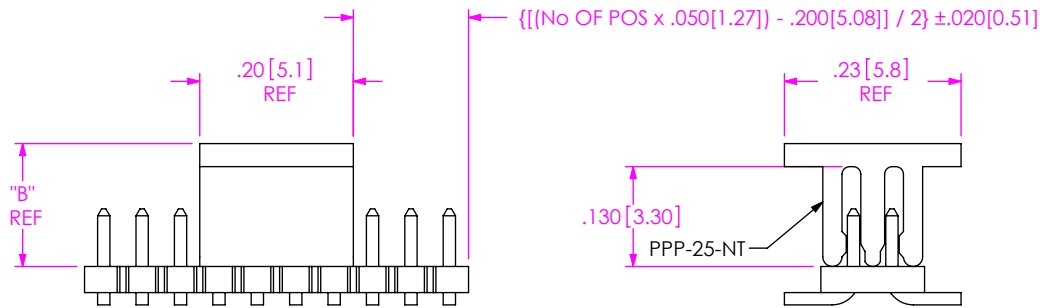
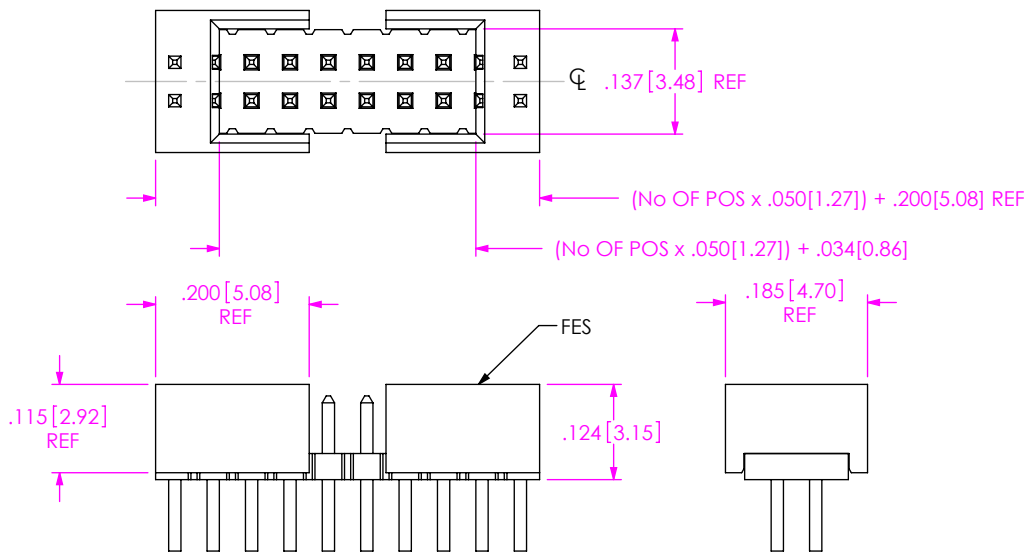

**FIG 3**
FIG 6
- S: END SHROUDS (SEE FIG 3, SHT 2 & FIG 6 SHT 3) (LEAD STYLE -02 & -03 ONLY) (05 POS MINIMUM, 46 POS MAXIMUM) (NOT AVAILABLE WITH -A OPTION; ORDER -SA FOR ALIGNMENT PIN WITH SHROUD) (SEE NOTES 6 & 7)